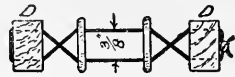

Fig. 1.—Plan showing how Toy Gymnast is suspended
**A Toy Gymnast.**—One of the happiest toys I have seen for a long time is the toy gymnast, a photograph of which is given in one of the plates accompanying this book. Turn to that plate for a moment, and I will show you how the gymnast works. The figure or puppet is of thin, flat wood, normally hanging with his hands above his head, and the string which supports him is arranged as shown in the plan and elevation, Figs. 1 and 2 herewith. Normally the string is crossed, but when the lower ends of the levers are squeezed together by the fingers the upper ends are forced apart, the string is pulled taut, and the figure is jerked upwards in a most realistic manner. There is no end to the contortions and amusing positions of which the gymnast is capable, and when the maker of the toy here described sent it to me I very soon discovered that both juniors and seniors took a huge interest in its antics. The toy, which seems to be still a novelty, although a very old one, consists of a base, a post, a cross-piece, two upright levers, the string, and the figure.
They are 16 in. long,  $\frac{5}{8}$  in. wide, and  $\frac{3}{8}$  in. thick. At a distance of  $5\frac{1}{2}$  in. from the lower end a hole is bored through the thickness to take a wire nail—a fairly stout one, about  $1\frac{1}{4}$  in. long. The nails must not fit the holes in the levers tightly, and the holes must be countersunk to take the heads of the nails. Preferably, also, the holes should widen out towards the heads of the nail so that the lever can rock easily. At  $\frac{1}{4}$  in. from the top of the lever are two fine holes  $\frac{3}{8}$  in. apart to take the string, as shown by the dotted lines in the detail plan (Fig. 1).
shown by the little circle in Fig. 9—takes a tiny piece of matchstick (*see* E, Fig. 2), which keeps the hands apart and assists the action of the toy. The two fine holes in the hands take the string, which actually is a piece of fine, but thoroughly good catgut (an “A” violin string a few inches long), which should be threaded through and tied exactly as shown in the detail plan, Fig. 1. It is wise to drill all the holes before cutting the pieces to shape.
when the figure is allowed to drop, the gut will cross exactly as shown in the detail (Fig. 1).